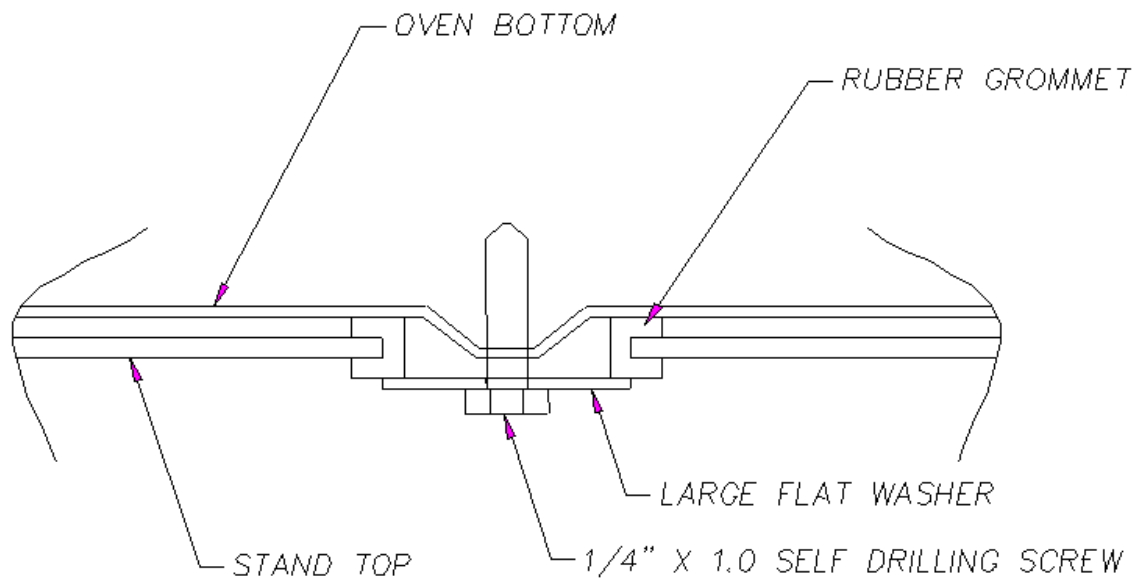

Figure 26. Optional LBB Oven Stand.
1. Install four rubber grommets into holes in the stand (Figure 26).